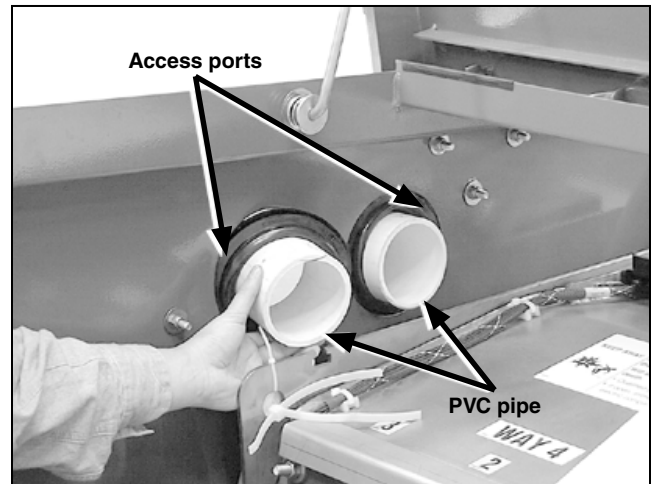

Figure 26. The PVC pipes inserted through the access ports.
- (a) Insert the three-inch PVC pipe through the access port. See Figure 26. Make sure equal lengths of pipe are showing in the low-voltage compartment and in the pad-mounted enclosure.